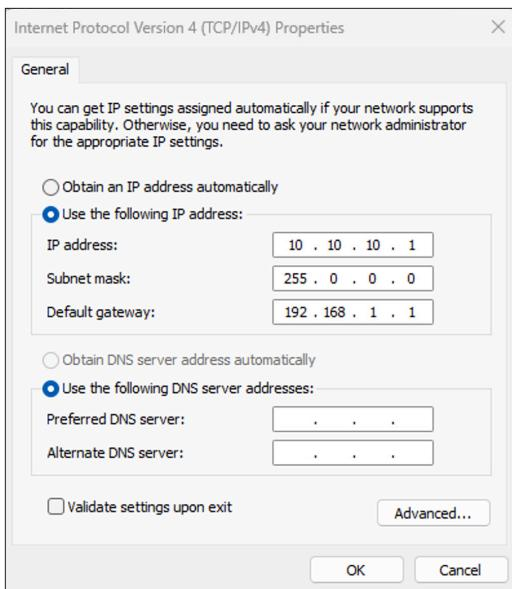

Fig. 117—Subnet mask and gateway are set automatically.
6. On the IP entry box enter 10.10.10.1 and then press *Tab*. The other values are automatically set (Fig. 117).